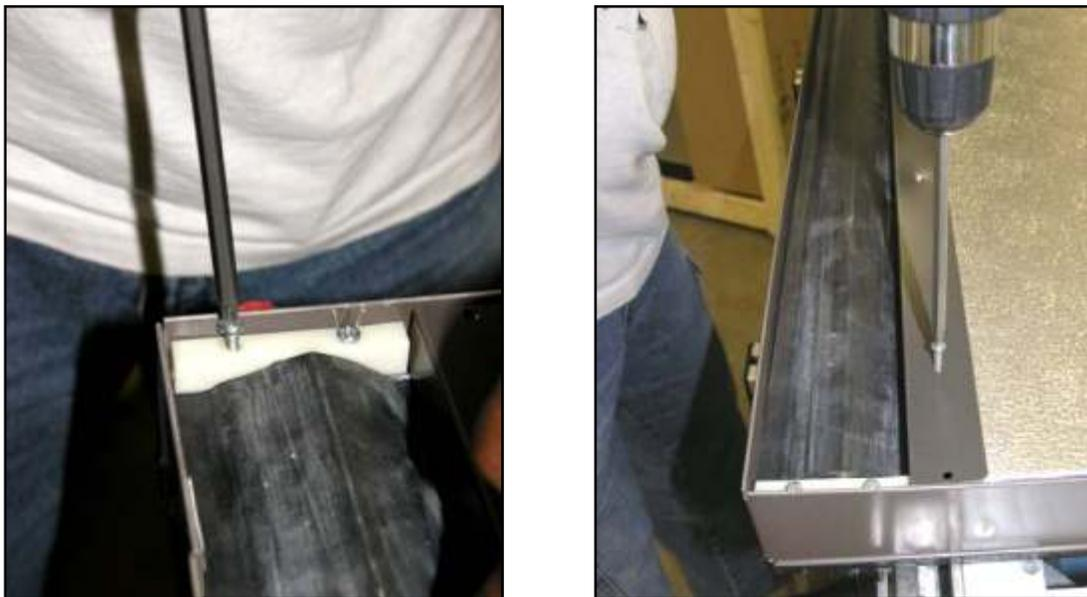

Fig. 6.1.6 – Securing stagnation-control hinge blocks and damper channel.
6. Ensure damper is properly aligned with collector frame and secure hinge blocks (Fig. 6.1.6). Secure damper channel with long self-drilling screws (Fig. 6.1.6). Note these screws pass through outer and inner walls of damper channel, sandwiching collector backing.